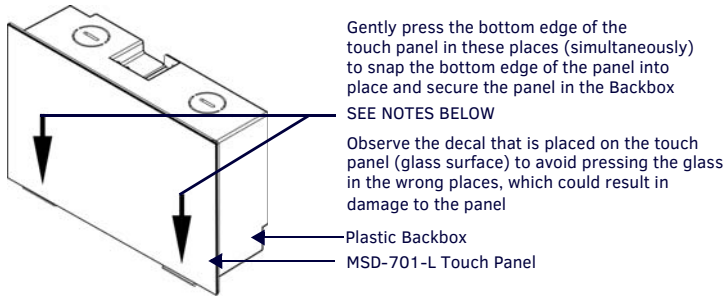

FIG. 6 SNAPPING THE BOTTOM EDGE OF THE PANEL INTO THE BACKBOX
- Gently press the bottom edge of the panel gently but firmly and ONLY IN THE PLACES INDICATED BELOW until the tabs click into place to secure the panel (FIG. 6):